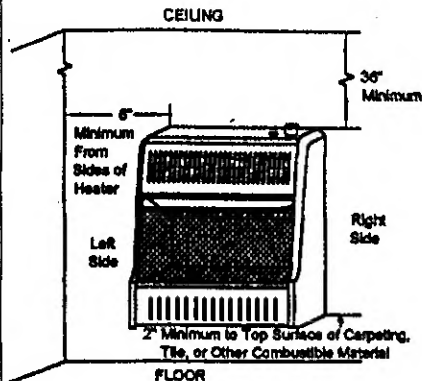

Figure 4-Mounting clearances as Viewed From Front of Heater
**⚠ WARNING:** Maintain the minimum clearances shown in Figure 4. If you can, provide greater clearances from floor, ceiling and joining wall.